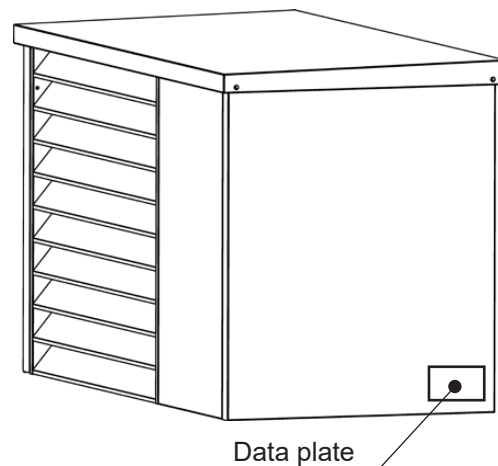

Fig. 24
- For devices that do not yet have a data plate attached at the position in Fig. 24, the data plate supplied in the system manual must be attached.